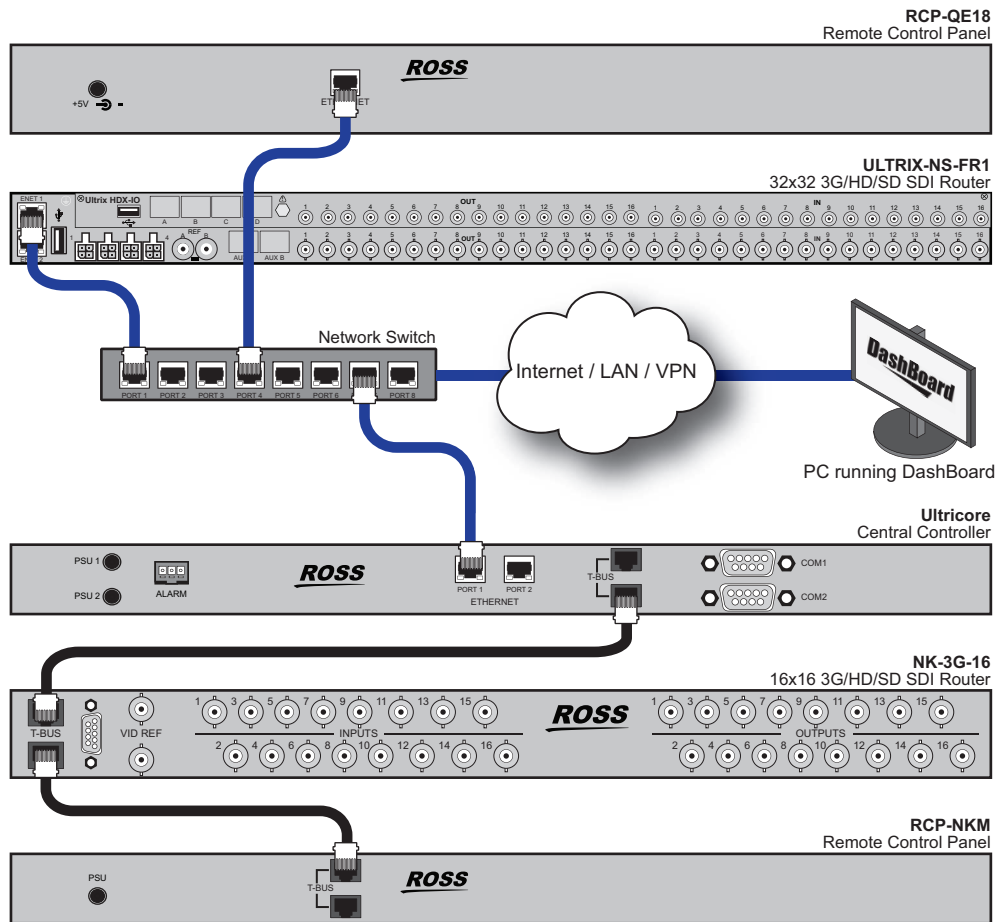

Figure 43 Example of a Routing System with Ross NK Devices and an ULTRIX-FR1 Router
- Connect the NK device via the T-Bus connections on an Ultracore and then set up communications via the Ultracore interface in DashBoard. (Figure 43)
Adding an Ultracore Central Controller (CC) to the system allows for native T-BUS devices to be added to the system, as well as RS-232 or RS-422 third-party control. The Ultracore communicates over Ethernet to devices in your routing system. Figure 43 shows a typical connection of Ultracore